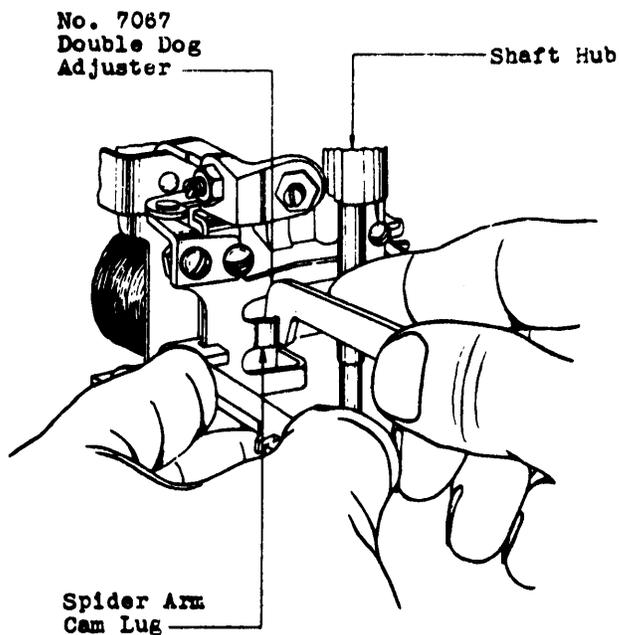

Fig. 12 - Method of Adjusting the Clearance Between the Spider Arm Cam Lug and the Shaft Hub
(1) To change the clearance between the spider arm cam lug and the shaft hub raise the shaft to the fifth level and adjust the lug as required with the No. 7067 double dog adjuster as shown in Fig. 12.